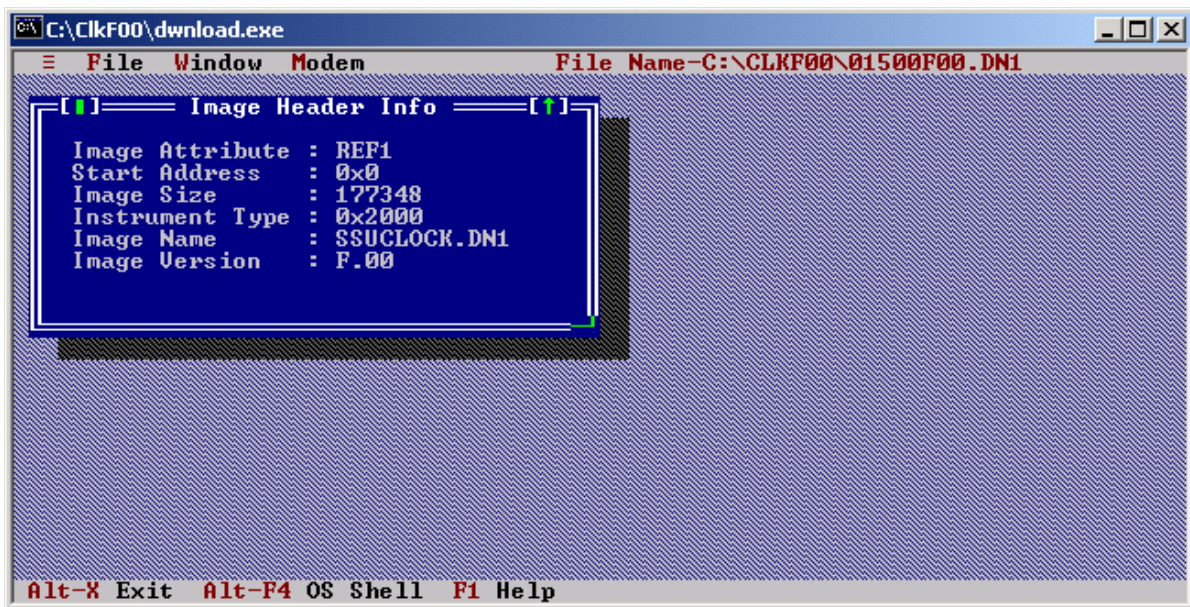

Figure H-1. DWNLOAD.EXE Main Window
5. Start the DWNLOAD.EXE program. A window similar to Figure H-1 appears.